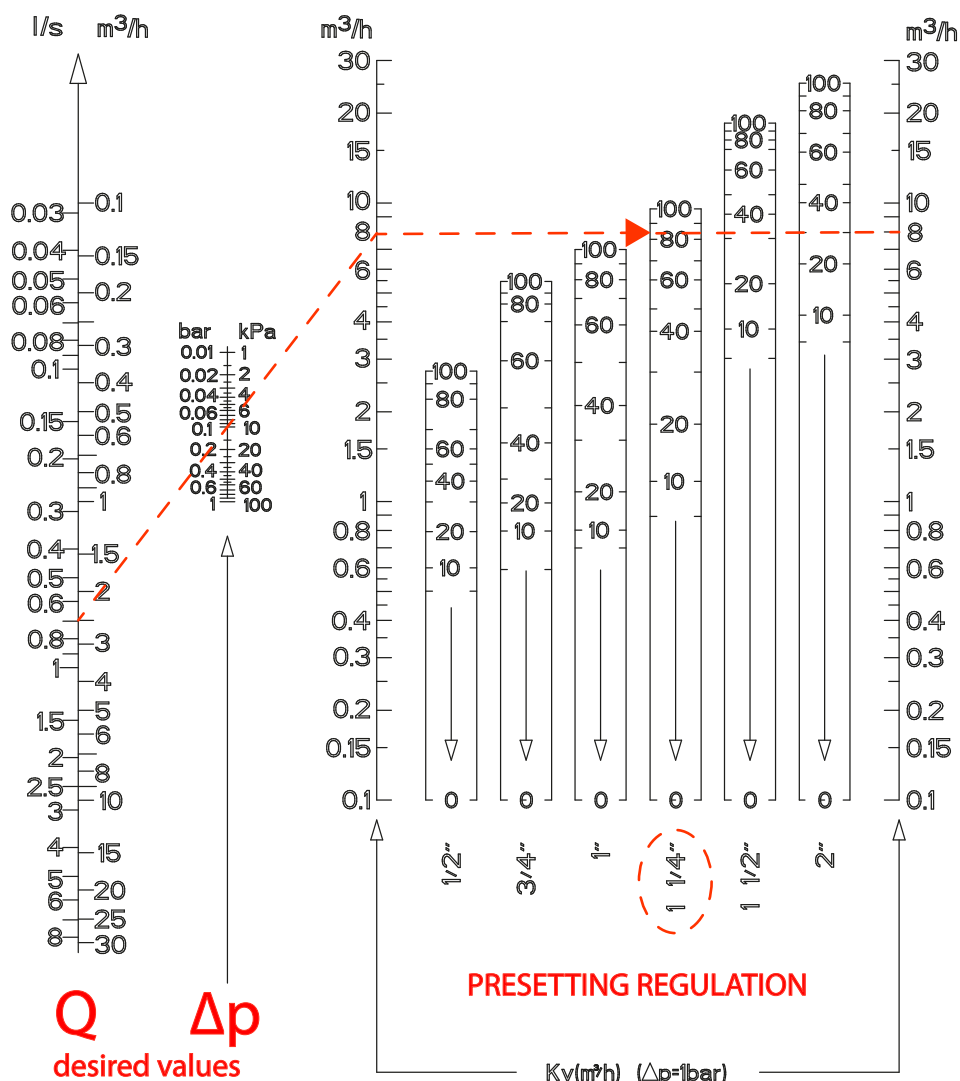

Figure 3
- Through the diagram of figure 3, determine the regulation to be carried out to obtain the desired flow rate Q depending on the differential pressure Δp according to the valve size.